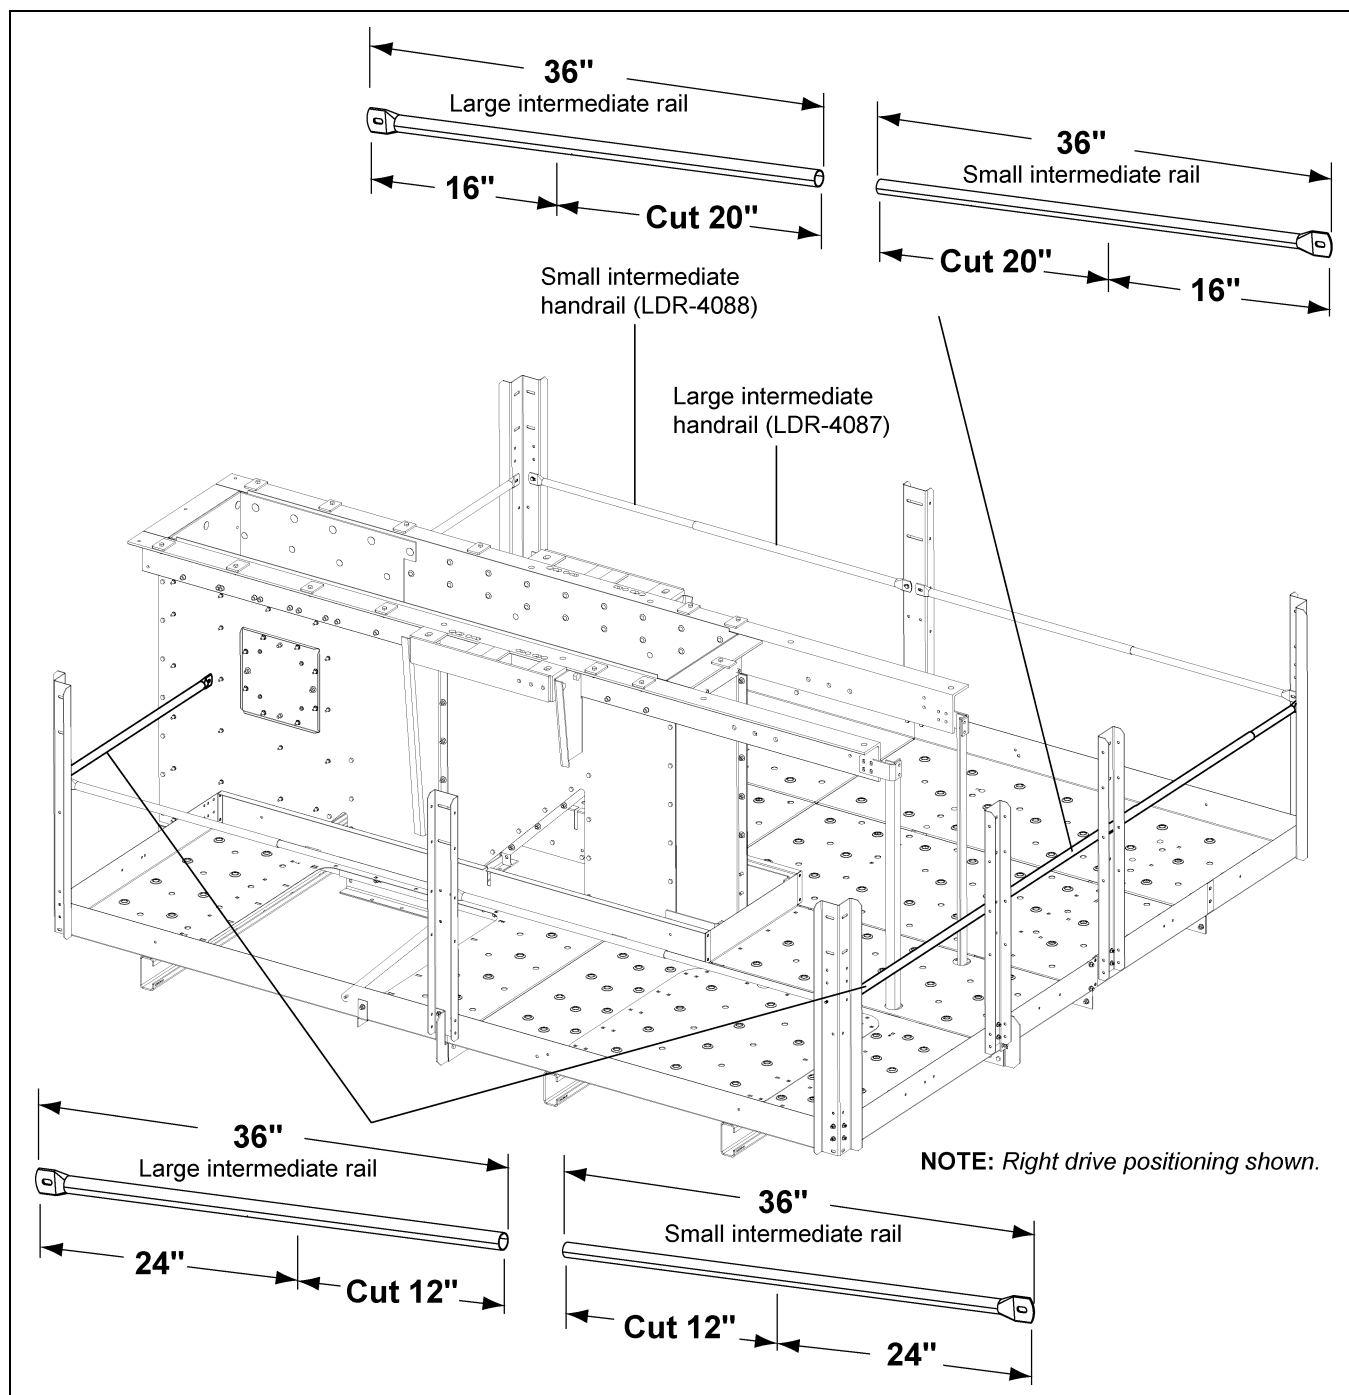

Figure 10J
1. Cut 20" off the tube end of one small intermediate handrail (LDR-4088) and one large intermediate handrail (LDR-4087). (See Figure 10J.) Slide the small rail into the large rail and install between the posts opposite the discharge end and adjust to fit. Fasten using 5/16" x 3/4" bolts (S-6606) and nuts.
2. Cut 12" off the end of two (2) small intermediate handrail (LDR-4088) and two (2) large intermediate handrail (LDR-4087). (See Figure 10J.) Slide the small rails into the large rails and install one set at the discharge end of Deck A. Install the second set opposite the discharge end of Deck A. Fasten using 5/16" x 3/4" bolts (S-6606) and nuts.